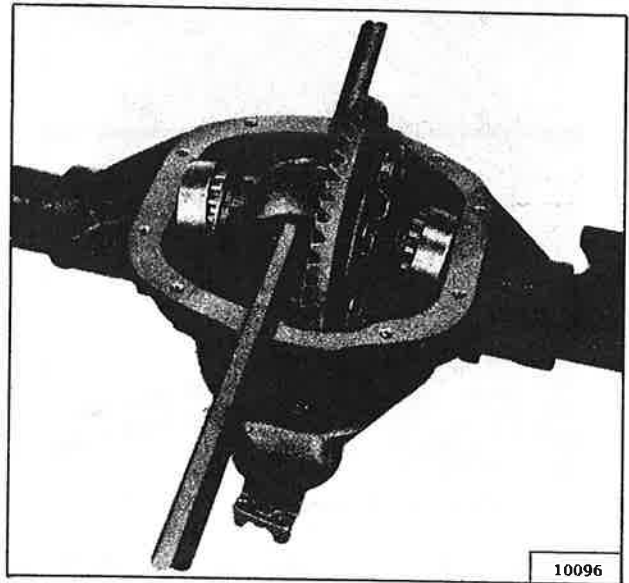

FIG. 240 REMOVING DIFFERENTIAL
- d. Should the spreader tool be unavailable, use two pry bars, one on each side of the differential case opening, to pry out the differential as shown in Fig. 240.